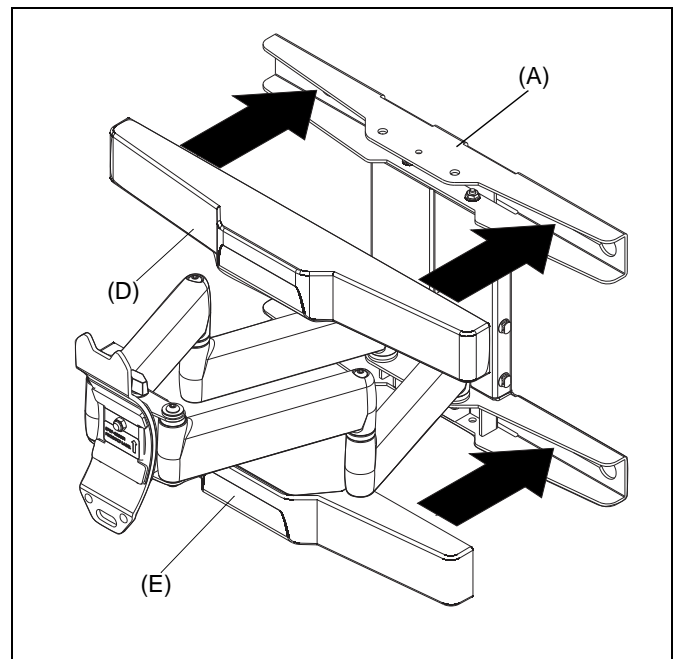

Figure 3
1. Install upper and lower covers (D and E) onto main assembly (A) mounting rails. (See Figure 3)